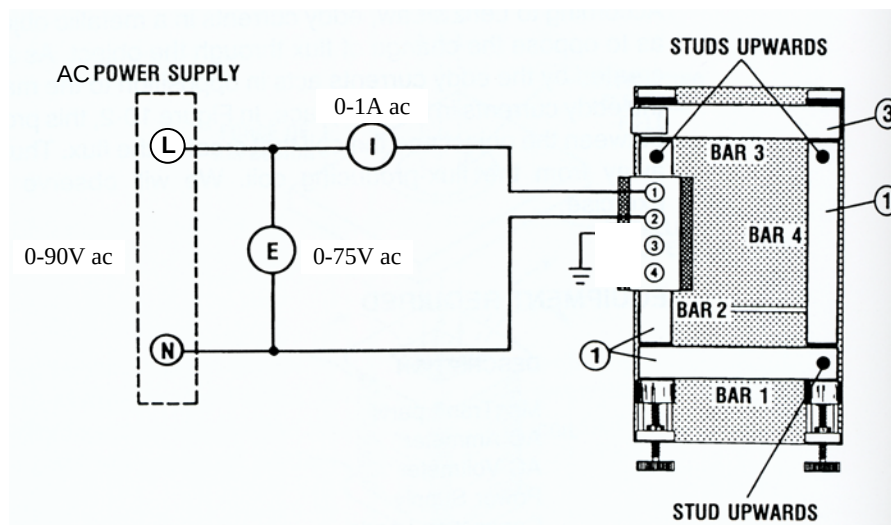

Fig 3: circuit for observing the effects of a laminated construction on electromagnetic induction
1. Set up the circuit of Fig 3. Tighten the screws to minimize the air-gaps in the magnetic circuit.